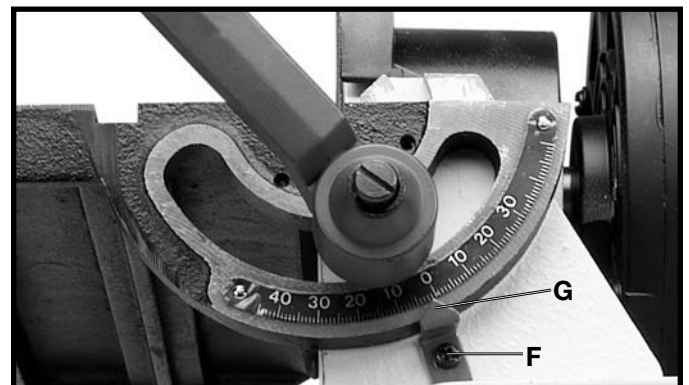

Fig. 30
Then loosen screw (F) Fig. 30, and adjust pointer (G) so it points to the "0" degree mark on the table scale.